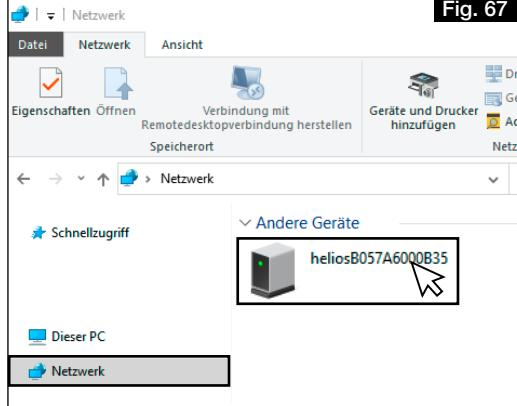

Fig. 67
2. Open desktop and click on Network, cf. Fig. 67.
3. Double-click on the corresponding unit, cf. Fig. 67.